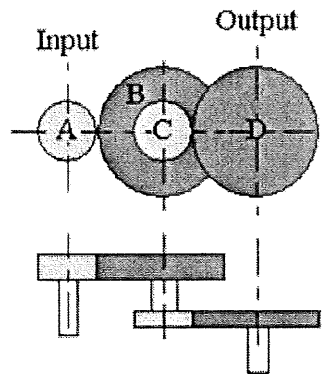

Figure 1
- a) Gear A is input and revolves at 1500 rev/min clockwise from the left end shown in Figure 1. The input torque is 45 Nm and the efficiency is 65%. Given Gear A has 50 teeth, Gear B has 150 teeth, Gear C has 30 teeth and Gear D has 60 teeth. **Find** the following